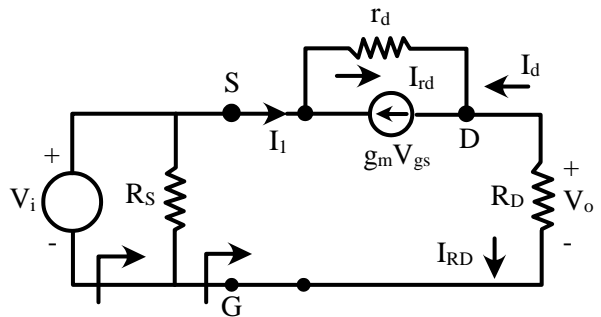

Figure 6.23: Modified equivalent circuit
We can replace the FET with its small signal model to determine the various parameters of a CG amplifier. Modified equivalent circuit is as shown in figure 6.23.
From figure 6.23, Input Voltage is, $V_i = -V_{gs}$
From figure 6.23, $I_1 = I_{RD}$ in equation (3),